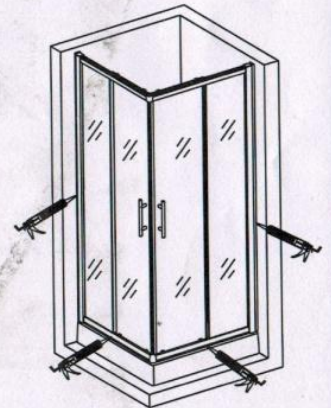

fig 18
16. Seal with silicone caulk between wall profile and wall, bottom rail guild and base. (fig 18)